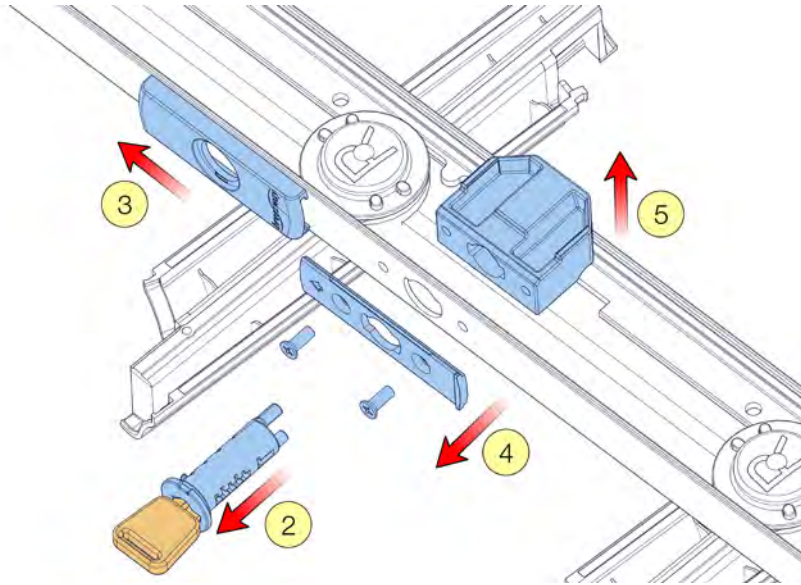

Fig. 23.4.1.3.2-1.1
5. Slide and remove the block from the Op bar cut-out. *Refer to Figure 23.4.1.3.2-1.1.*